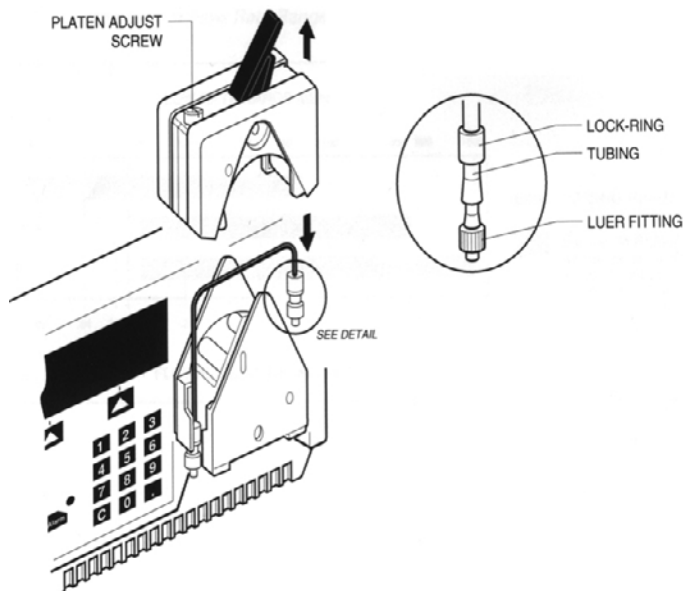

Figure 2: Controller Pump
- 8.6.2.1. Remove the platen by lifting the grey handle (figure 2).
- 8.6.2.4.1. Loosen the platen adjust screw located on the top of the pump (fig. 2) by turning counterclockwise until there is slight resistance.
9.2. Figure 2: Controller Pump